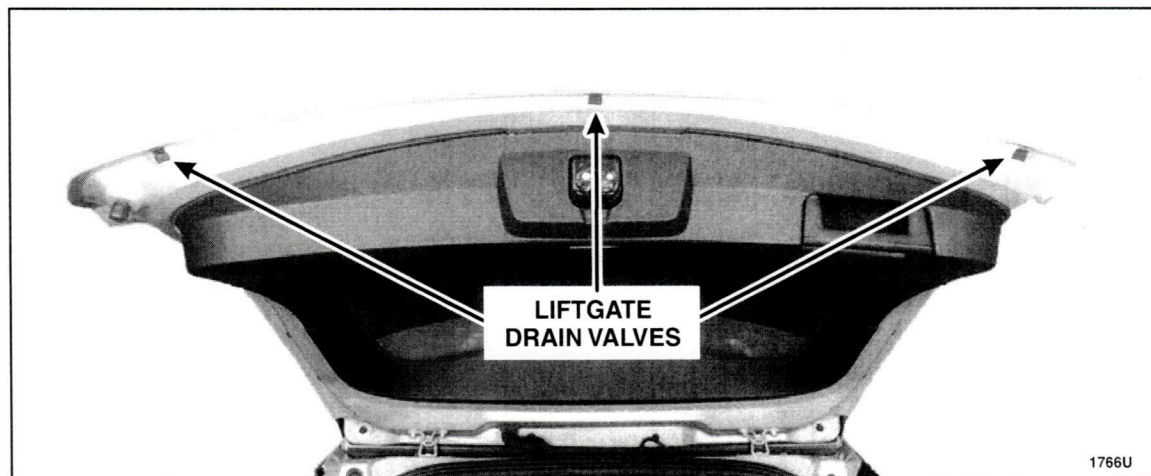

FIGURE 5
1. Remove and discard all liftgate drain valves. Clean the liftgate where the drains are fitted using isopropyl alcohol. 2011-2015 model year vehicles are equipped with two valves, 2016-2017 model year vehicles are equipped with three valves. See Figure 5.